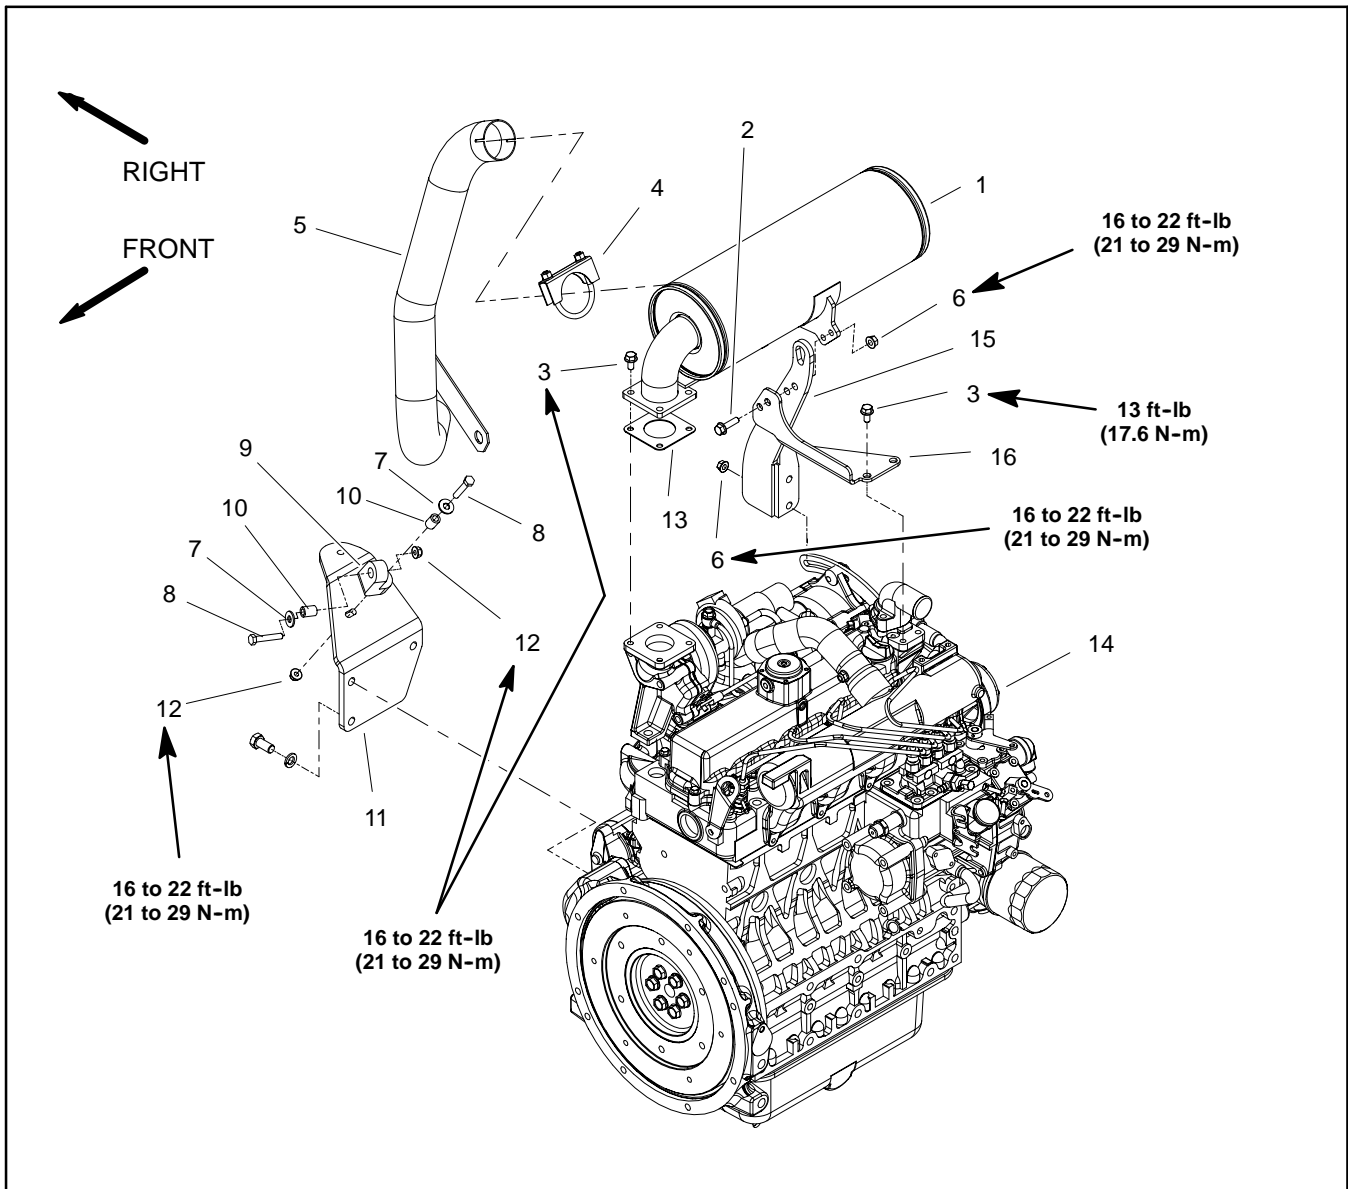
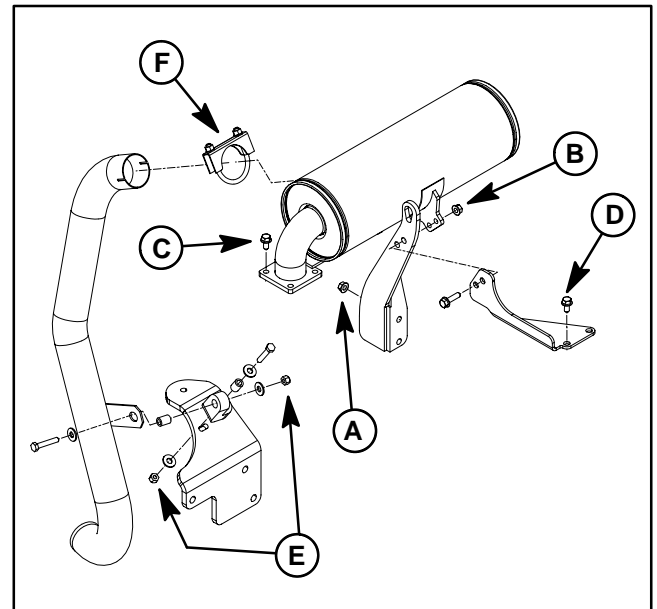

Figure 5
Figure 6
Removal (Fig. 5)
3. Remove muffler and/or muffler bracket from the engine as necessary using Figure 5 as a guide.
Installation (Fig. 5)
2. Install exhaust system components to the engine using Figure 5 as a guide. Hand tighten exhaust system fasteners and then torque in the sequence shown in Fig. 6 as follows: